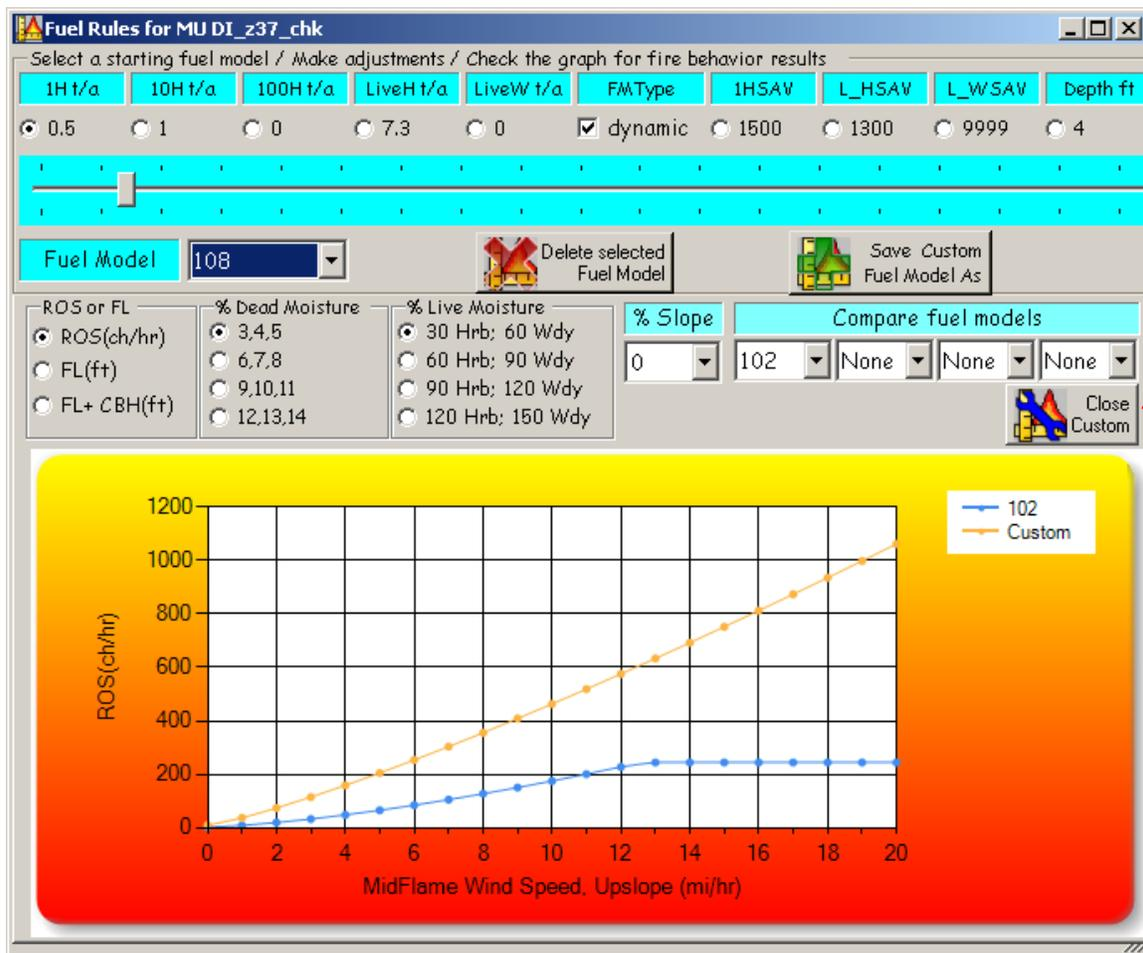

Figure 7-34. Create custom fuel models.
- Make adjustments by selecting a parameter and then moving the slide adjustment (fig. 7-34).
- Close the custom fuel model interface when finished by clicking the same button now called “**Close Custom**” (fig. 7-34).